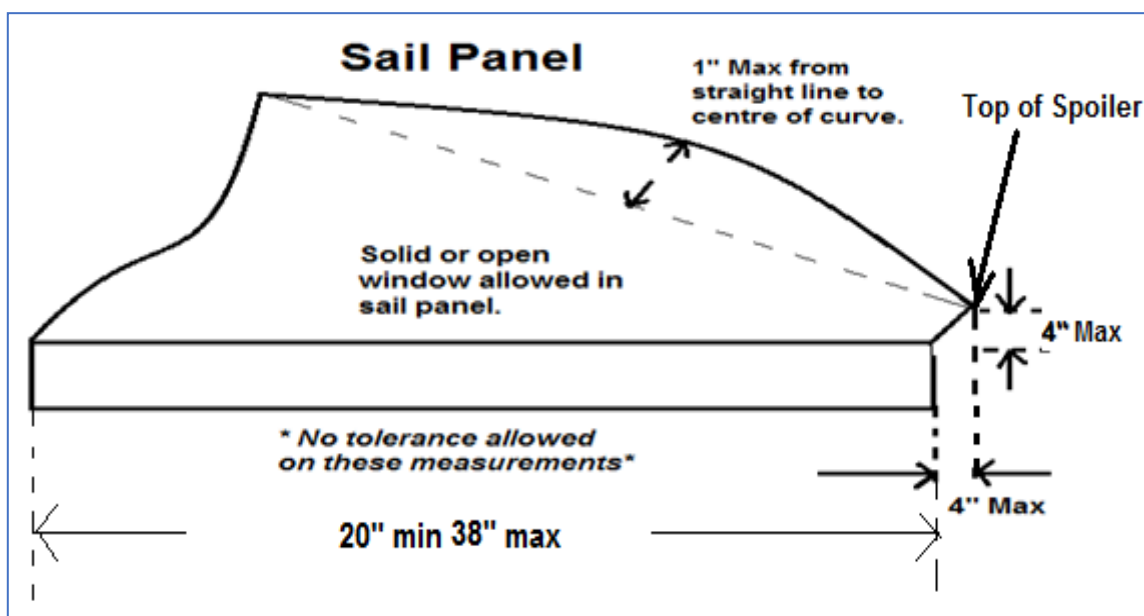

Figure 7
10.3 Sail panel may be no higher than 1" (one) inch and no lower than 3" (three) above or below an imaginary straight line from the rear edge of roof panel to 4" above the top edge of the back of the rear quarter panel (top of spoiler if used). Measurements are taken looking from the side elevation (Figure 7 & 8).
- 13.1** A one piece, aluminium or Lexan spoiler with a maximum height of 4 inches above the back of the rear deck will be permitted. The top of the spoiler may extend past the end of the rear deck by 4" (*Figure 7 & 8*).